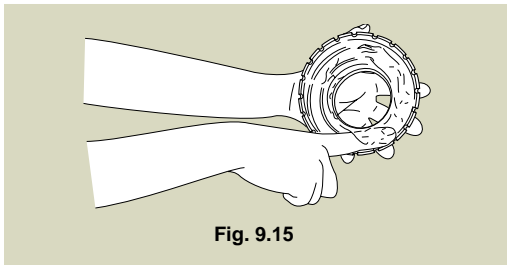

Fig. 9.15
- 2) In order to augment the dust and waterproofing effects, completely fill the space between the two lips of the rubber seal incorporated in the cover with grease, and apply grease to the inside of the cover, filling about two-thirds of the space. Cup grease is commonly used for this purpose (Fig. 9.15.)
- 5) Pack the second cover with grease as in step 2 and pass it along the shaft. In the case of a blind cover, the recess of the housing should be filled with grease (Fig. 9.15).